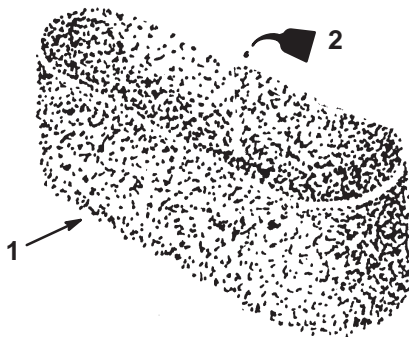

Figure 23
- Put 1 or 2 ounces of oil on the element (Fig. 23) and squeeze the element to distribute the oil.